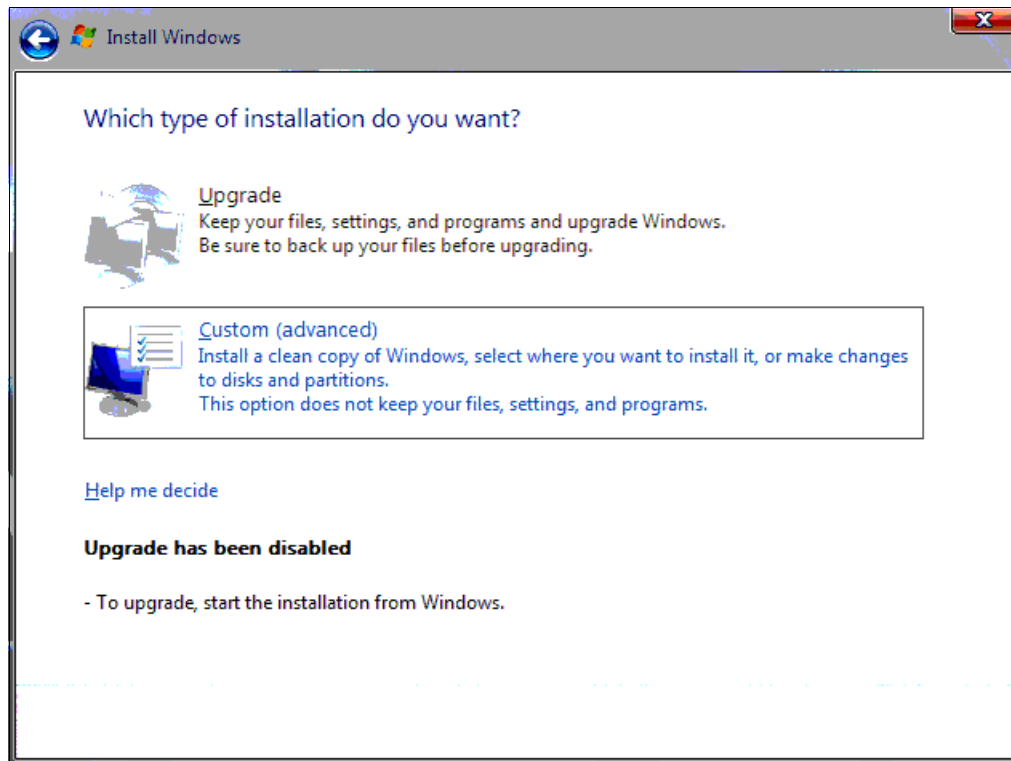

Figure 6-3 Selecting install type
7. On the “Which type of installation do you want?” panel (Figure 6-3), click **Custom (advanced)**.